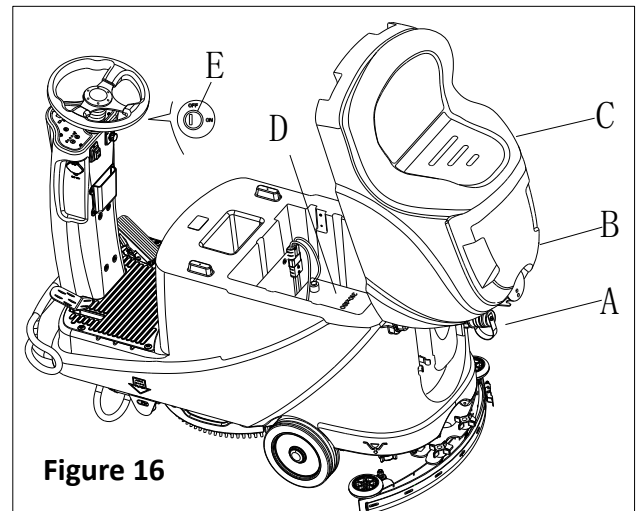

Figure 16
1. Open the recovery tank cover (B, Figure 16) to check if the recovery tank (C) is empty, or empty the recovery tank through the drain hose (A).
- Check the battery electrolyte level of the batteries (D), if necessary, open the cover to full fill electrolyte, and then recover it.